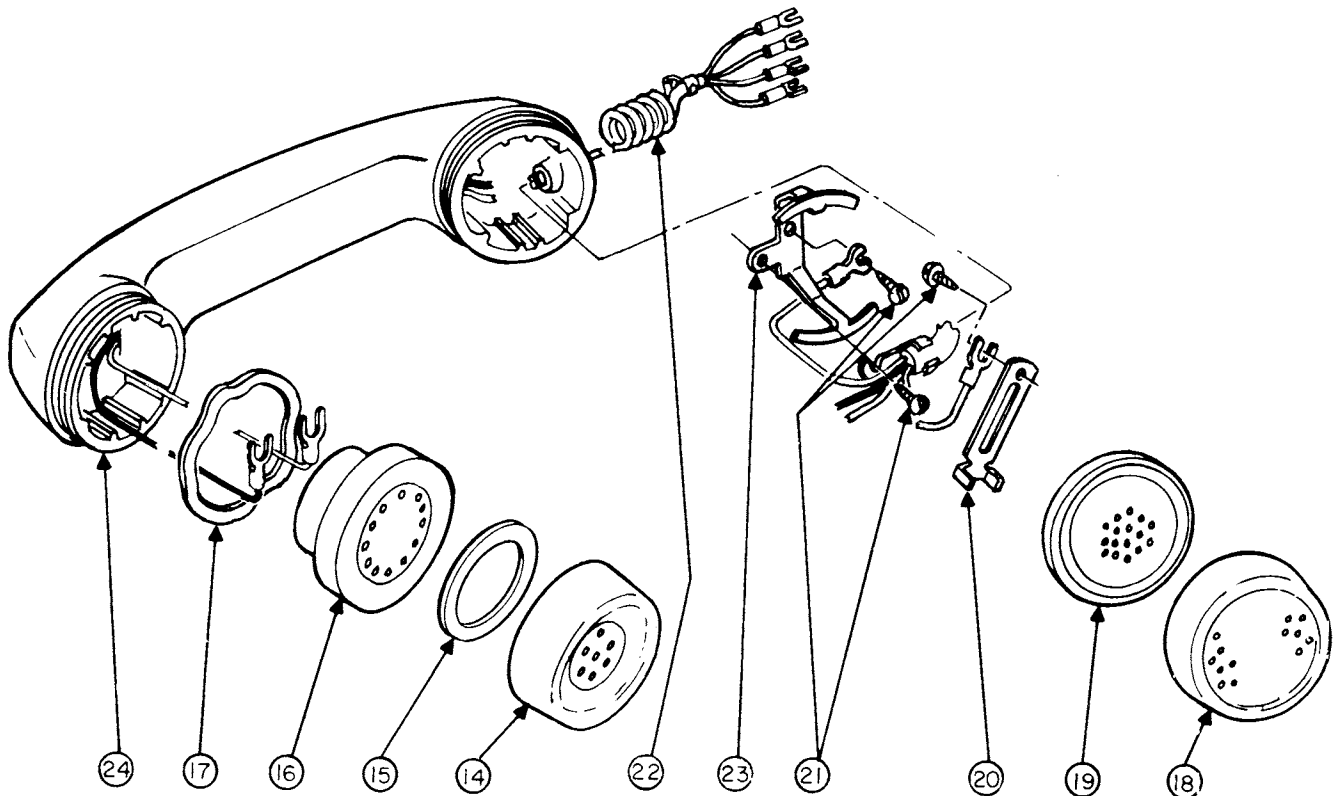

Figure 5. Exploded View of Handset for the Type 90M Telephone Set.
- 3.07 To remove the receiver capsule (Item 16) from the handset (Figure 5):
5.03 To assemble the handset (Figure 5):